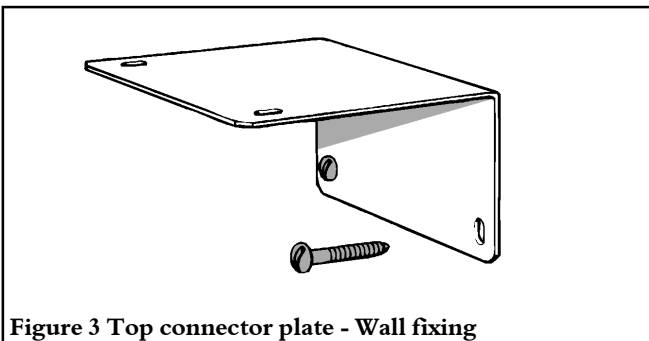

Figure 3 Top connector plate - Wall fixing
4. Secure the top connector plate to the wall using the woodscrews (and anchors where necessary). See figure 3.